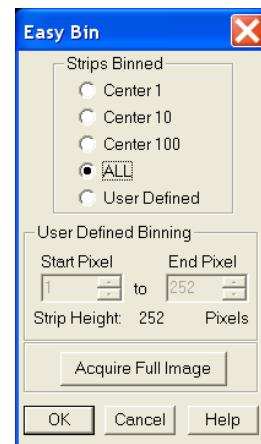
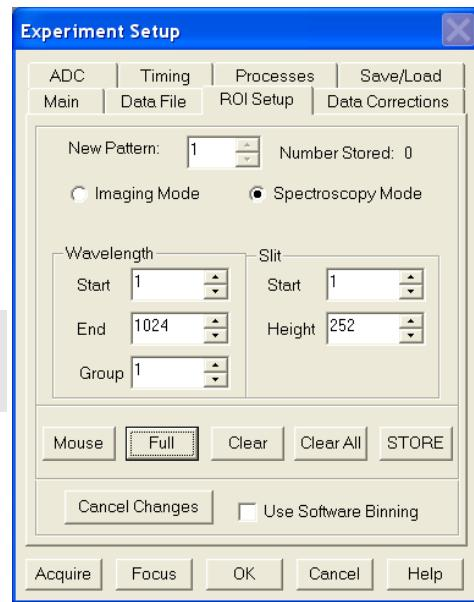

Figure 128. Easy Bin dialog
Figure 129. ROI Setup tab
A Region of Interest (ROI) may be the entire CCD array or it may be a rectangular subregion of the array. For data acquisition, the definition of such a region is done either from the **Easy Bin** dialog (Figure 128, page 142) accessed from the **Acquisition** menu or from the **Experiment Setup|ROI Setup** tab (Figure 129, page 143), accessible after selecting **Experiment Setup** from the **Acquisition** menu. Easy Bin is a simple way of defining a single full chip width ROI. ROI Setup allows you to create multiple ROIs with greater flexibility in ROI location and width.
2. On the **Easy Bin** dialog (Figure 128), click on the appropriate radio button:
1. Open the **Experiment Setup** dialog and click on the ROI Setup tab to open the **ROI Setup** tab (Figure 129).